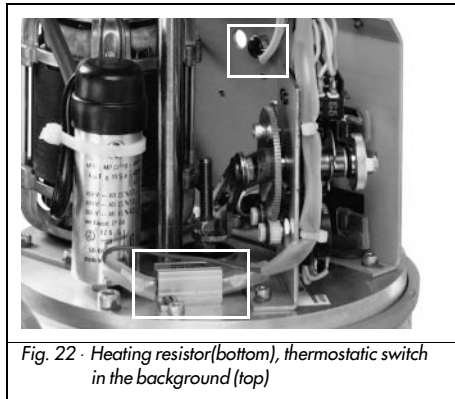

Fig. 22 · Heating resistor(bottom), thermostatic switch in the background (top)
- Secure heating resistor to the position intended for this purpose (see Fig. 22) using the two self-cutting screws supplied with the resistor.